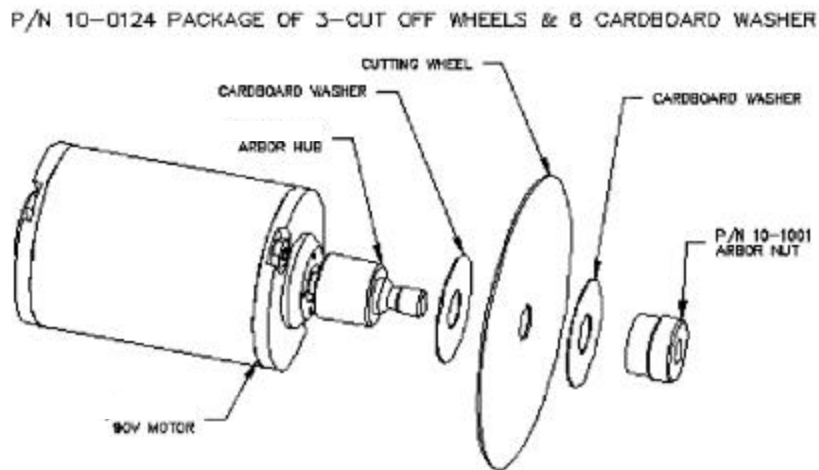

Figure 3
4. Holding the fuse tray in the exact orientation shown in Figure 3, observe the small clip shown and grasping at the two sides of the clip gently remove from the tray assembly as shown in Figure 3.
5. Observe the shorting clip placement as shown in Figure 3. Place a shorting clip by hand onto the tray as follows. The tray must be oriented as drawn (the marking PRSR will be at the top of the fuse tray front). The clip must be oriented as shown with the "finger" at the center pointing toward the front of the tray. Do not bend this finger or the required connections will not be made. Grasping the clip only at the sides, slide it down into place on the tray. The base of the clip will insert into the cavity in the tray when it is placed in the correct position. Place one fuse into the compartment in the side of the fuse tray opposite the side with the clip. The fuse rating must be as shown on the back of the unit cabinet. An 1-1/4" long American fuse will extend for the full length of the tray. A shorter 20 mm long European fuse must be placed fully to the rearmost end of the tray (closest to the metal tabs extending from the tray) or contact will not be made and the unit will not operate.